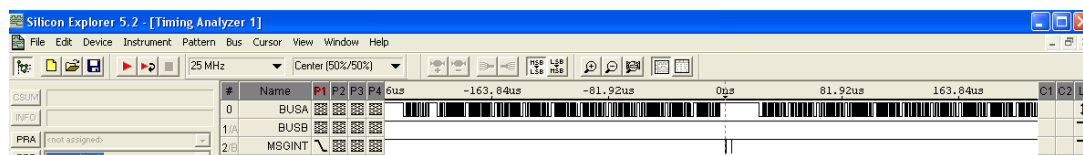

Figure 2-13 • Bus Activity
- Press the **RSTN** button on the board, then click the **acquire** icon from the Silicon Explorer software. You should see Bus Activity on Bus A (Figure 2-13).